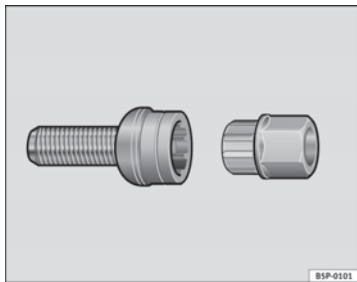

Fig. 184 Anti-theft wheel bolt
- Insert the adapter onto the wheel bolt and push it on as far as it will go ⇒ Fig. 184.